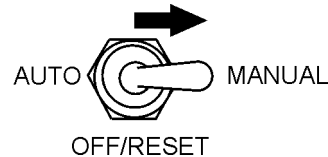

Figure 29. Auto-Off/Reset Manual Switch (Manual Position)
3. Place the **Auto-Off/Reset Manual Switch** in the **MANUAL** position to start the engine (Figure 29).